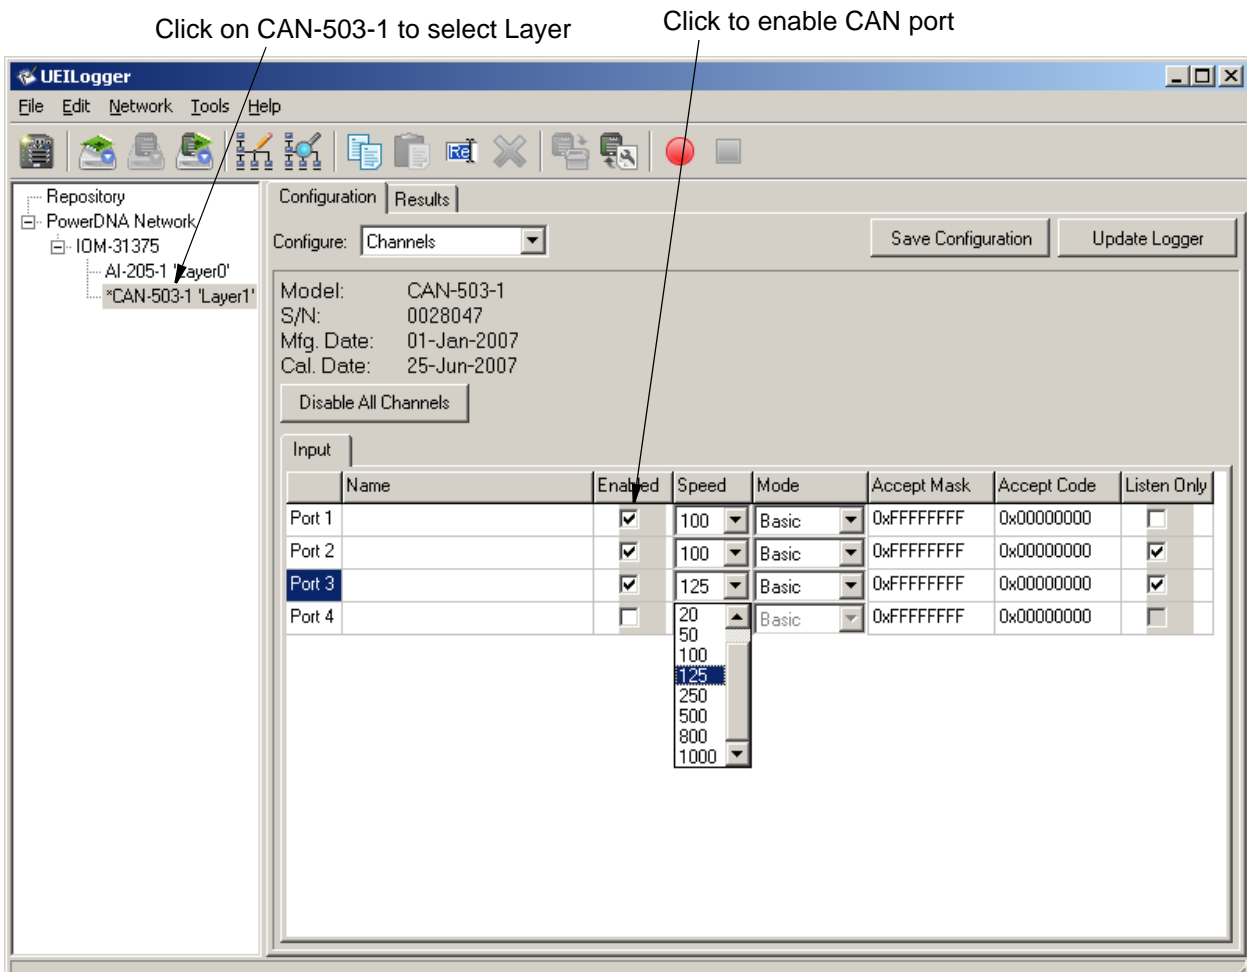

Figure 2-38. Configuring the CAN-503 Ports
- STEP 1:** In the left window of the Logger screen, click on the Layer marked CAN-503. Then, in the right hand window, click on the *Configuration* tab. In the *Show* box, pull down the menu and select *Channels*. The screen shown in **Figure 2-38** then appears.